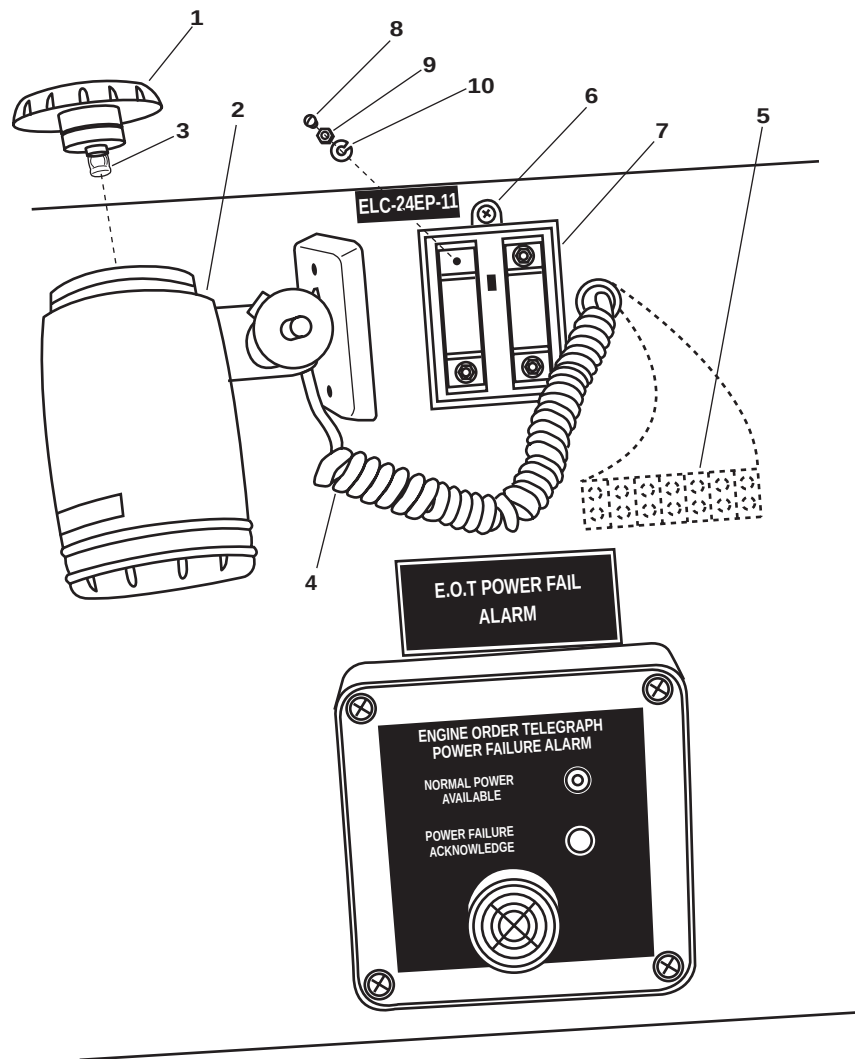

Figure 9. Pilothouse Console Illumination Light
2. Turn the ON/OFF switch (figure 9, item 1) past the OFF position until it clicks.
3. Pull the ON/OFF switch (figure 9, item 1) out of the pilothouse console illumination light assembly (figure 9, item 2).
4. Push IN slightly and turn the bulb (figure 9, item 3) approximately 1/8 turn counterclockwise. Remove the bulb.
1. Position a new bulb (figure 9, item 3) in the ON/OFF switch (figure 9, item 1), push it straight IN, and turn it approximately 1/8 turn clockwise to latch it.
2. Position the ON/OFF switch (figure 9, item 1) in the pilothouse console illumination light assembly (figure 9, item 2) and turn it toward the ON position until it clicks into place.
2. Use a multimeter to check for available voltage at the pilothouse console illumination light wiring (figure 9, item 4) terminals on the terminal block (figure 9, item 5). If voltage is present, ensure that the proper circuit breakers are secured, locked out, and tagged out (FM 55-502). If no voltage is present, continue with the procedure.
3. Label and disconnect the pilothouse console illumination light wiring (figure 9, item 4) terminals at the terminal block (figure 9, item 5).
4. Press IN on the locking tab (figure 9, item 6) and slide the pilothouse console illumination light (figure 9, item 2) from its base (figure 9, item 7).
5. Remove the four screws (figure 9, item 8), four nuts (figure 9, item 9) and four lockwashers (figure 9, item 10) securing the base (figure 9, item 7) to the console. Discard the lockwashers and remove the base.
1. Position the base (figure 9, item 7) on the console and secure it with four screws (figure 9, item 8), four nuts (figure 9, item 9) and four new lockwashers (figure 9, item 10).
2. Slide the pilothouse console illumination light (figure 9, item 2) into the base (figure 9, item 7) until the lock tab (figure 9, item 6) clicks and secures the pilothouse console illumination light.
3. Connect the pilothouse console illumination light wiring (figure 9, item 4) terminals at the terminal block (figure 9, item 5). Remove the labels installed during removal.